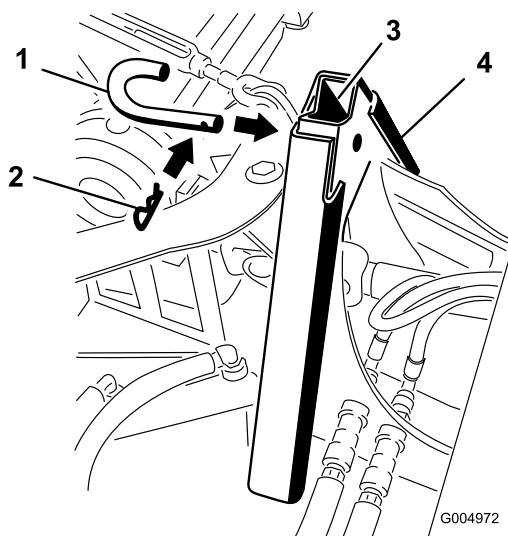

Figure 56
4. Secure the adapters together with the attachment pin and hairpin cotter as shown in Figure 56.